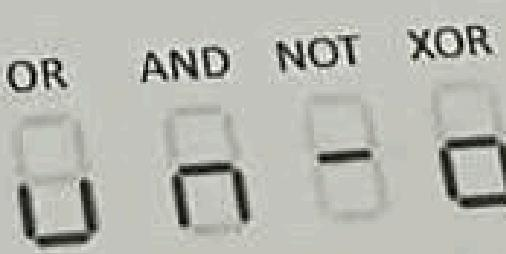

Figure 1: 7-Segment Logic Operation Display
- **Switch 2 and 3** are used to define the logic operation as described in **Table 1** and will be displayed in the **7-segment** as shown in **Figure 1**.
; Based on Figure 1 shapes: